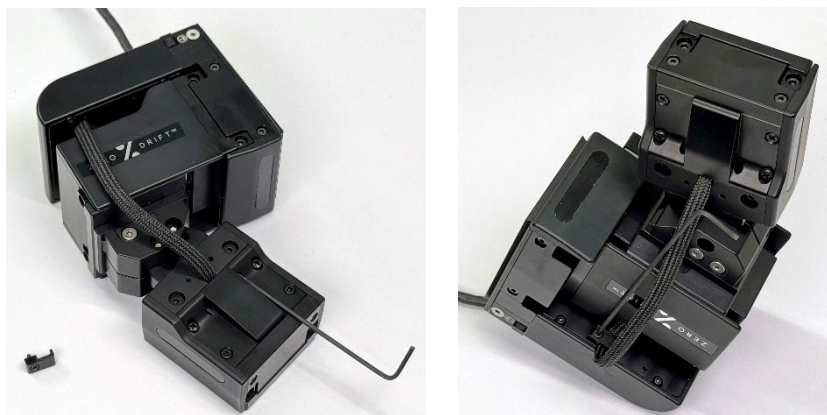

Figure 49. Re-attach x-axis and cable clip in left-handed configuration.
5. Attach x-axis back to the micromanipulator in left-handed configuration with 2 pcs of x-axis mounting screws using 1.5 mm hex key (Figure 49, left).
6. Secure x-axis cable to the manipulator body with cable clip by using 1.5 mm hex key. **BE CAREFUL NOT TO PINCH THE CABLE WITH CABLE CLIP** (Figure 49, right)